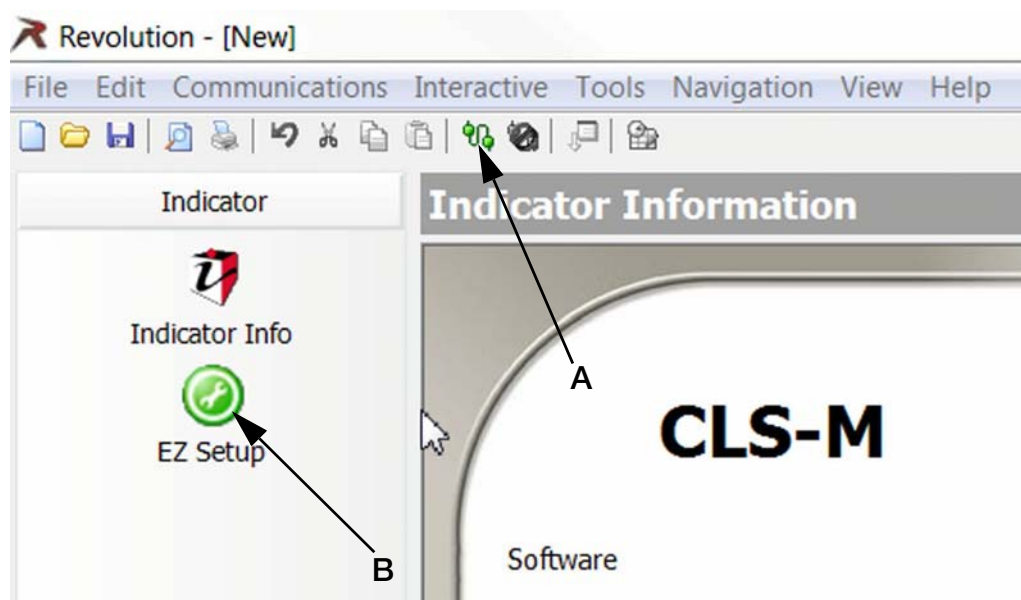
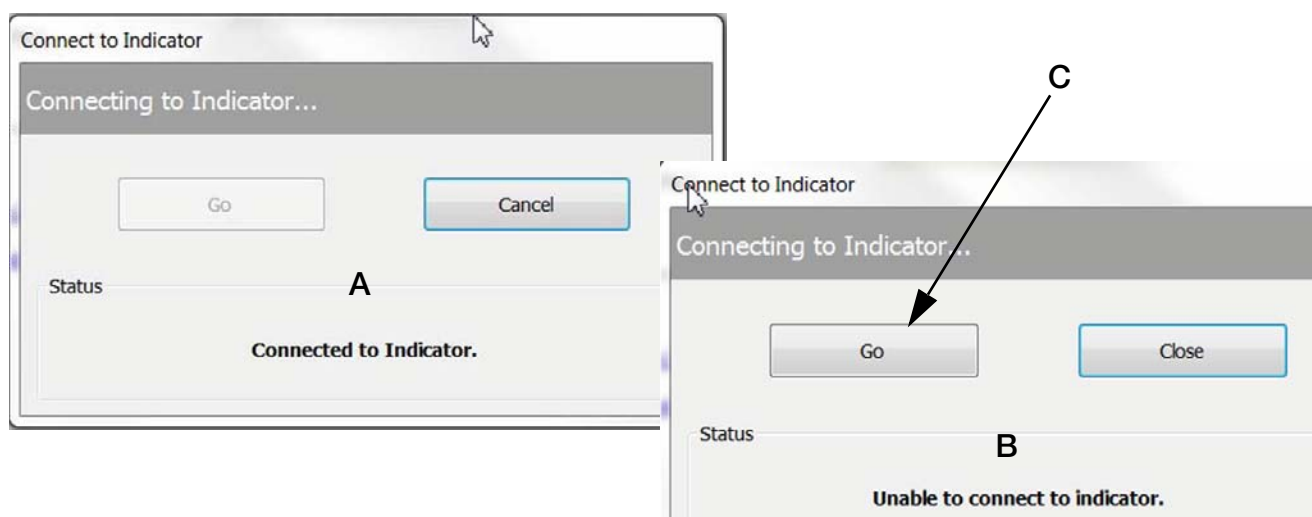

Figure 4-5. Connect Revolution
Figure 4-6. Connection Success/Failure
- Select the connect icon from toolbar (Figure 4-5 A). A pop-up box comes up momentarily (Figure 4-6 A) to indicate the computer is now indicated to the box.
- If it comes up as *Unable to Connect to Indicator* (Figure 4-6 on page 17 B) verify the Comm Port is correct and that the mobile PC is turned on. Then select GO (Figure 4-6 on page 17 C) to connect.